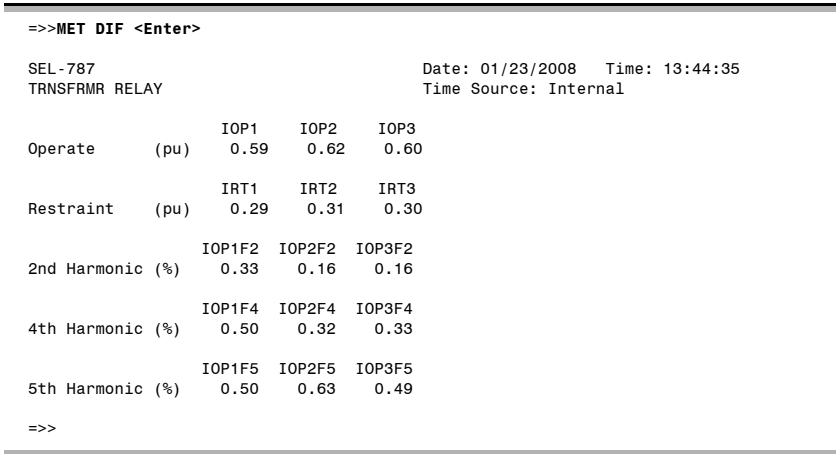

Figure 5.3 METER DIF (Differential) Command Report
The differential metering function in the SEL-787 reports the fundamental frequency operate and restraint currents for each differential element (87) in multiples of TAP. *Table 5.2* shows the value reported. *Figure 5.3* shows an example of the **METER DIF** (differential) command report.